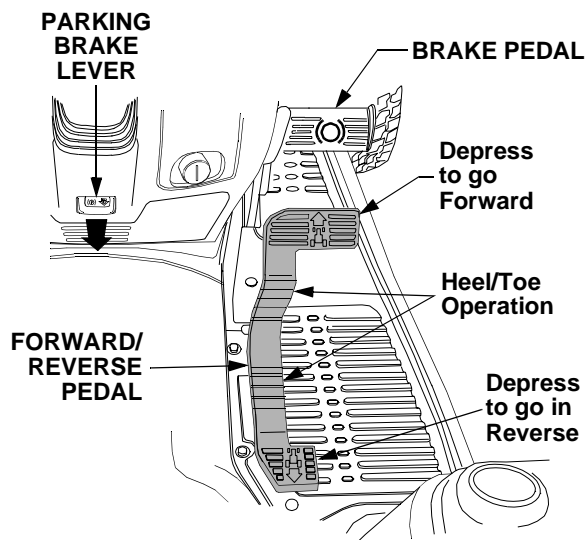

Figure 16
- To move forward, slowly depress the front of the forward/reverse pedal until the desired speed is achieved. The speed of the tractor is directly related to the distance the pedal is depressed. Refer to Figure 16.